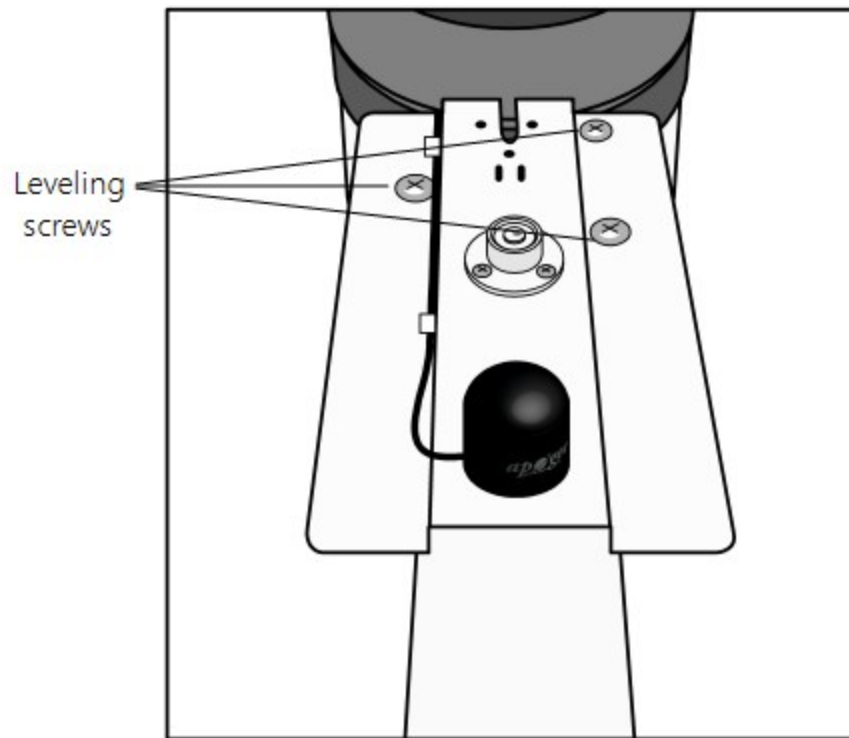

FIGURE 6-19. Pyranometer levelling
1. Adjust the three levelling screws until the bubble level indicates plumb (FIGURE 6-19 (p. 32)).